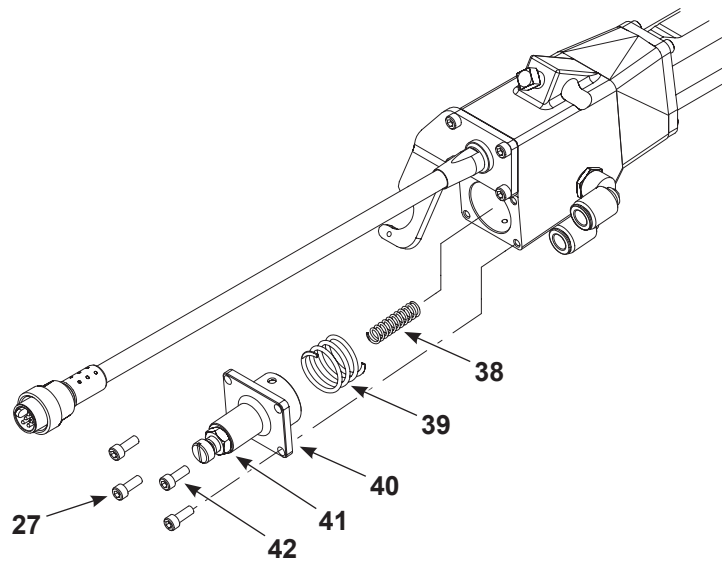
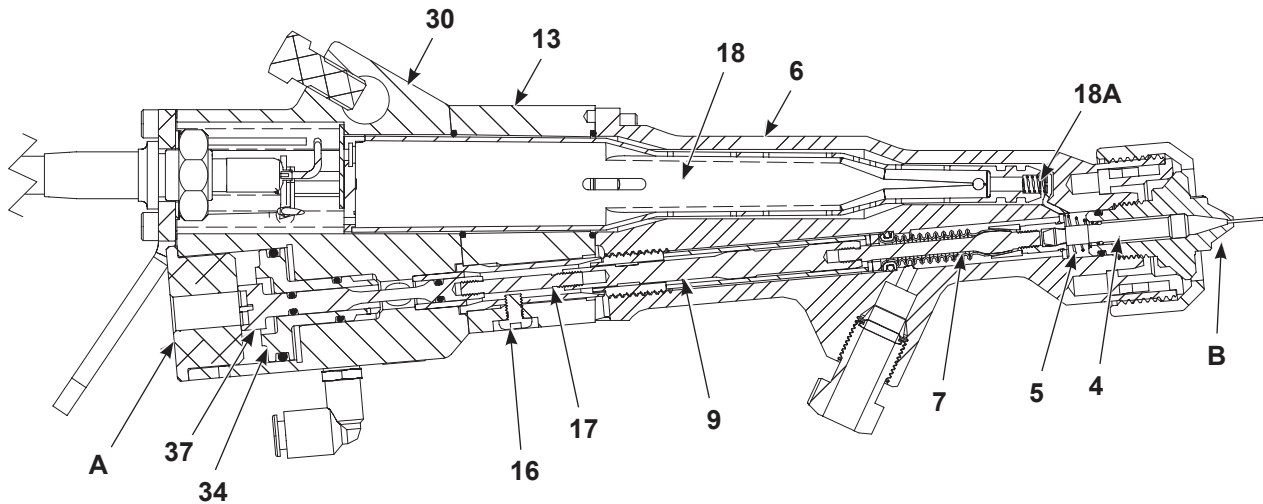

Figure 7-3 Removing the Fluid Adjuster and Springs
Figure 7-7 Re-Assembly
2. See Figure 7-3. Remove the four socket screws (27) with a 5/32-in. hex wrench.
See Figure 7-3 through Figure 7-7.
14. Refer to Figure 7-3. Coat the springs (27 and 28), adjuster shaft (31), and inside of adjuster housing (29) with O-ring lubricant.
16. Install the adjuster housing on the gun body and secure it with the four screws (21). Tighten the screws to 2.27–2.83 N•m (20–25 in.-lb).